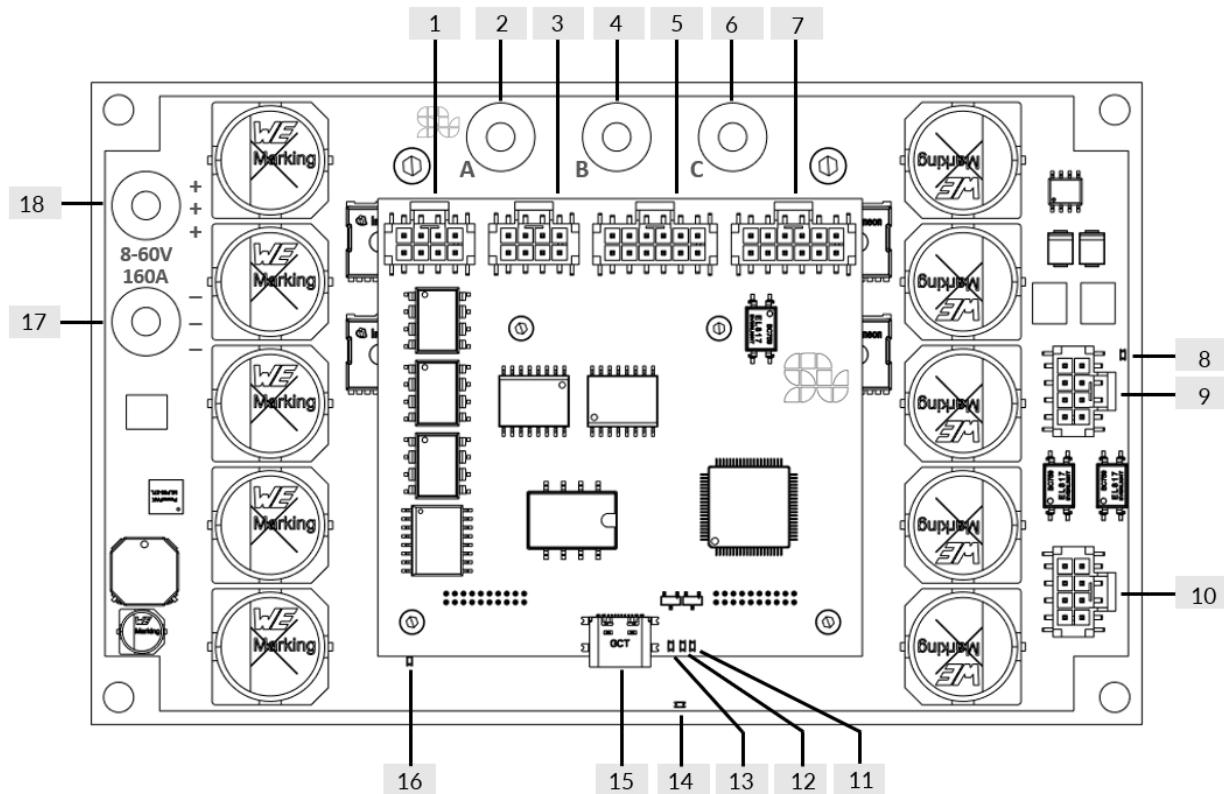

Figure 5 - SOLO MEGA's interactional sections
- All The sections are referred to Figure 5 below
SOLO MEGA can be decomposed into 18 main interactional sections as shown in Figure 5, all the sections will be explained in detail and their electrical and maximum ratings will be mentioned later in this user manual, the user has to make sure they don't exceed those maximum ratings to avoid damaging themselves or the SOLO MEGA unit.